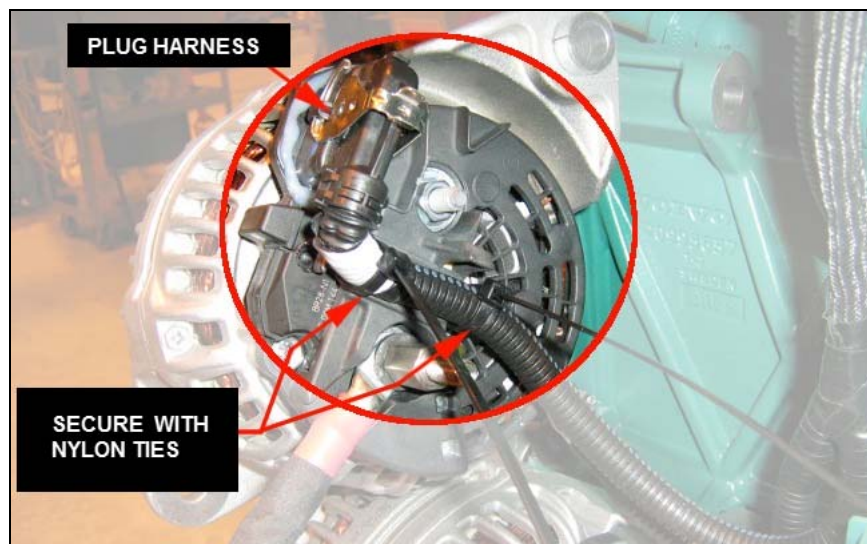

FIGURE 9
14. Plug alternator harness onto upper alternator connector and secure using nylon cable ties (figure 9).